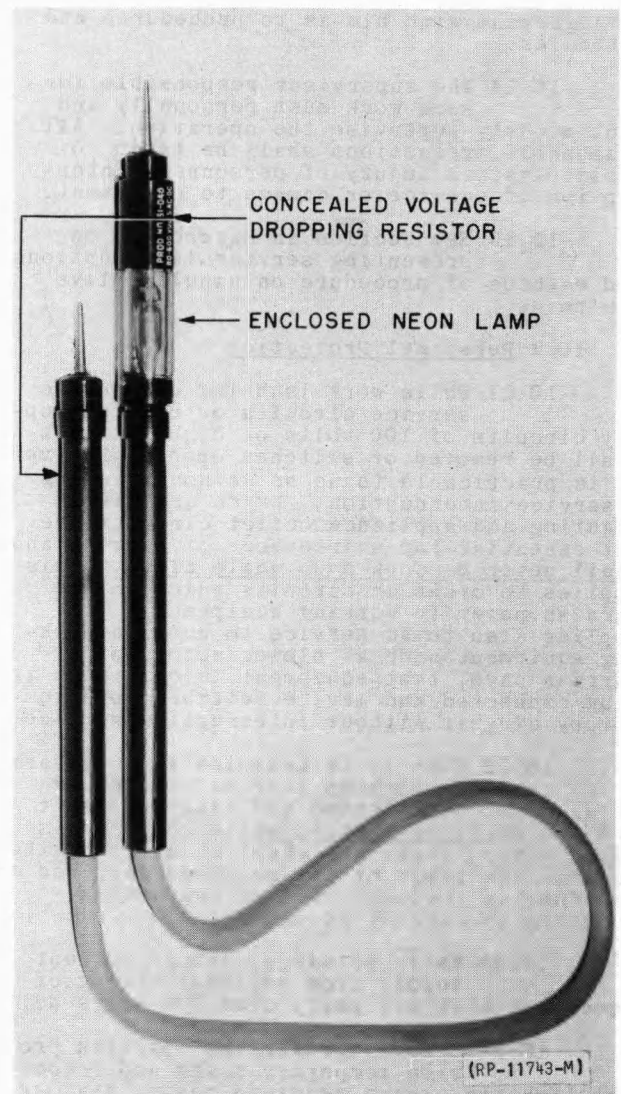

FIG. 14 R-2559 NEON TEST LAMP (PAR. 8.31)
8.31 The R-2559 neon test lamp is an excellent indicator of potentials from 100 to 550 volts. It may also be used for continuity tests of fuses. It is not dependable for continuity tests of wiring because it may light on leakage currents. See Figure 14.